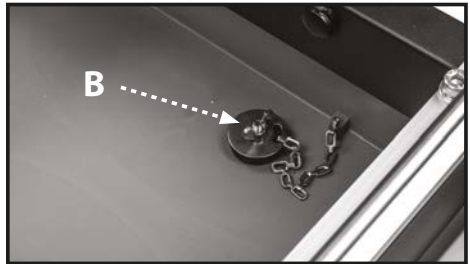

FIGURE 18
2. Turn the wingnut counter clockwise to loosen drain plug (B, Fig. 18).